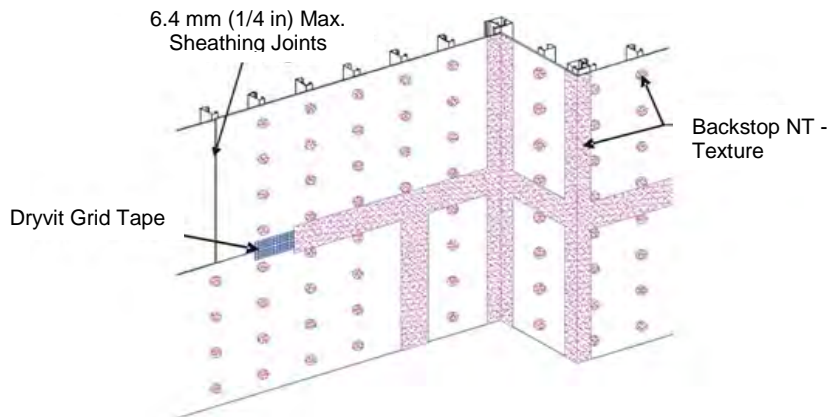

Figure 15
- 1) Apply Dryvit Grid Tape as described in Section VI.E.1 above. Mix the Backstop NT - Texture material as described in Section III.B.2. Using a stainless steel trowel or spatula, apply a layer of Backstop NT - Texture over the Dryvit Grid Tape and spot all fastener heads – Figure 15. **NOTE: Dryvit Grid Tape is not necessary over fastener heads.**